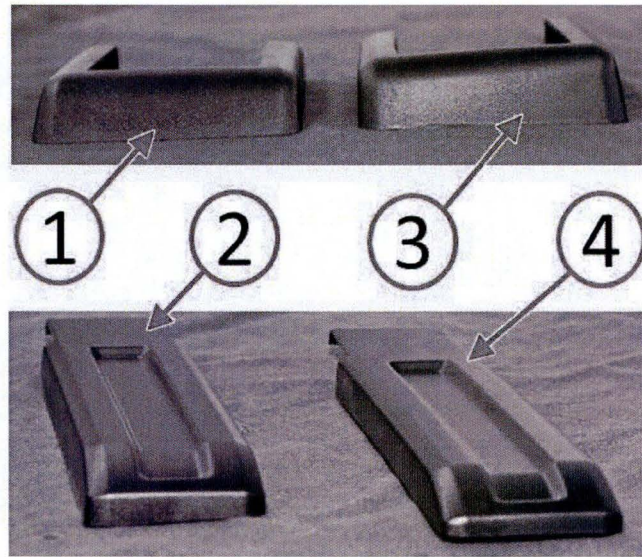

Fig. 4 Tailgate Hinge Cover Identification
5. Install the tailgate hinge covers. If the hinge cover(s) were damaged due to tailgate hinge over extension, replace the damaged hinge cover(s) as necessary. Each hinge cover is a unique shape and **CANNOT** be interchanged. Refer to (Fig. 4) for identification of correct hinge cover placement.